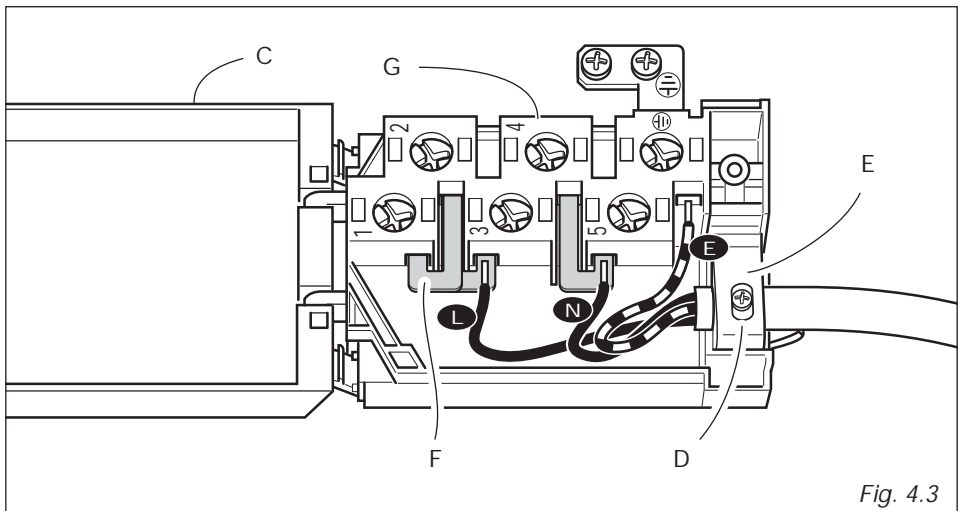

Fig. 4.3
- Unscrew the screw **D** and open completely the cable clamp **E** (fig. 4.3).
- Position the U bolts **F** onto terminal board **G** (fig. 4.3) according to the diagram in fig. 4.2.